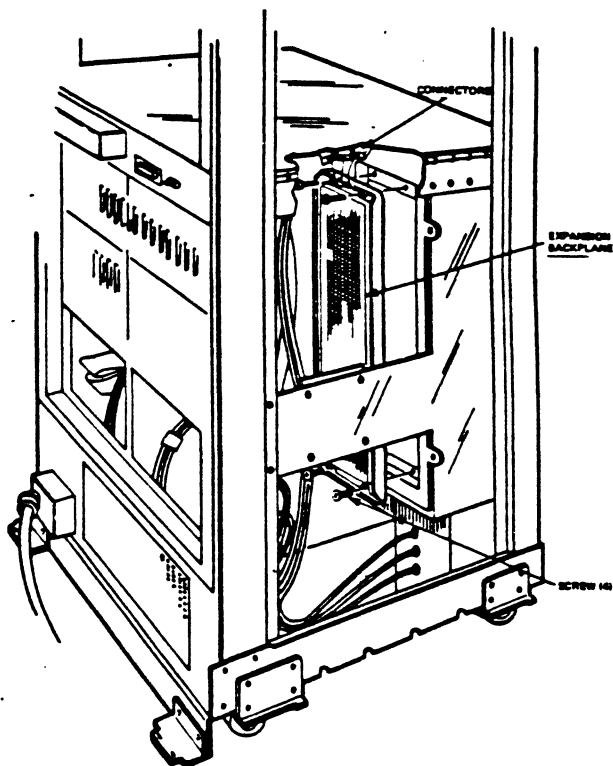

FIGURE 2-20 EXPANSION BACKPLANE MOUNTING
1. Remove the AC power from the power controller by setting the circuit breaker OFF (0).
4. Remove the left cabinet side cover -viewed from the cabinet front- by lifting up from the bottom. See figure 2-20.